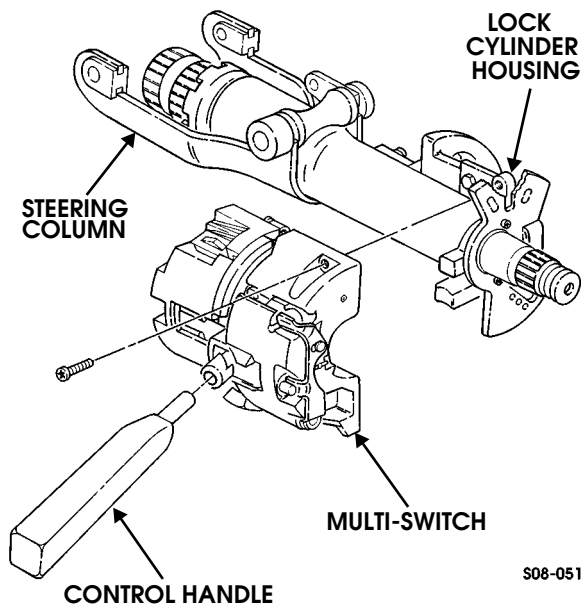

Figure 8-10: Steering Column Multi-Switch Replacement
3. Remove two screws and multi-switch from steering column (Figure 8-10).
1. Attach control handle to multi-switch (Figure 8-10).
3. Remove two screws and the multi-switch assembly from the lock cylinder housing (Figure 8-10).
5. Secure the multi-switch assembly to the lock cylinder housing with two screws. Tighten screws to 35-40 lb-in. (3.9-4.5 N•m) (Figure 8-10).
1. Remove two screws and the multi-switch assembly from the lock and switch housing (Figure 8-10).
5. Connect the multi-switch assembly to the lock and switch housing with two screws (Figure 8-10).